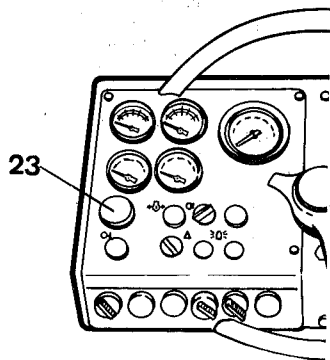

Fig 6 Instrumentpanel
I NÖDLÄGE - TRYCK NED NÖDSTOPPET (22), SE FIG 6.